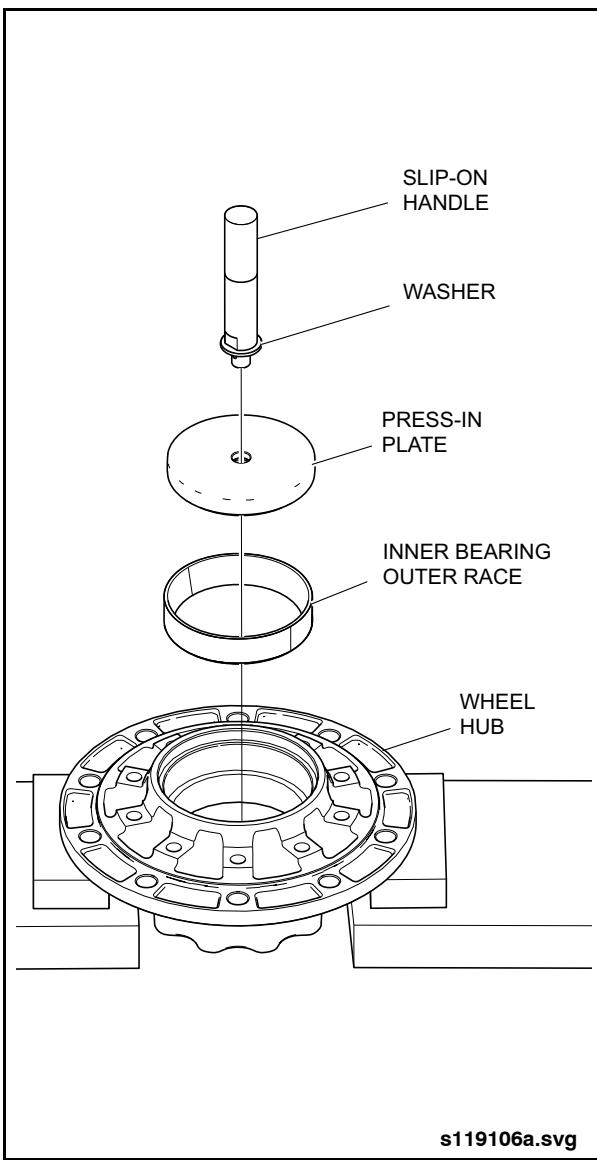

Fig. 2-24: Installing Inner Bearing Outer Race
1. Place wheel hub on its outer bearing support with a piece of wood supporting from underneath. See "Fig. 2-24: Installing Inner Bearing Outer Race" on page 25.